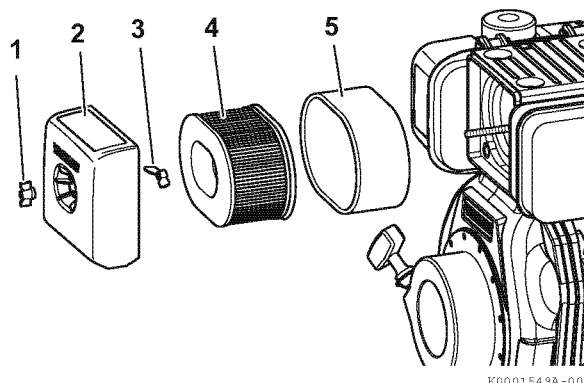

Figure 5-8
1. Remove the wing nut (1, **Figure 5-8**).
2. Remove the air cleaner cover (2, **Figure 5-8**).
3. Remove the wing nut (3, **Figure 5-8**).
4. Remove the air cleaner element (4, **Figure 5-8**) and outer foam element (5, **Figure 5-8**).
8. Clean the inside of the air cleaner cover (2, **Figure 5-8**).
9. Reinstall the air cleaner element (4, **Figure 5-8**) into the air cleaner housing.
10. Slide the outer foam element (5, **Figure 5-8**) over the air cleaner element (4, **Figure 5-8**).
11. Reinstall the wing nut (3, **Figure 5-8**) and hand-tighten. Over-tightening the wing nut will damage the air cleaner assembly.
12. Reinstall the air cleaner cover (2, **Figure 5-8**).
13. Reinstall the wing nut (1, **Figure 5-8**) and hand-tighten. Over-tightening the wing nut will damage the air cleaner assembly.